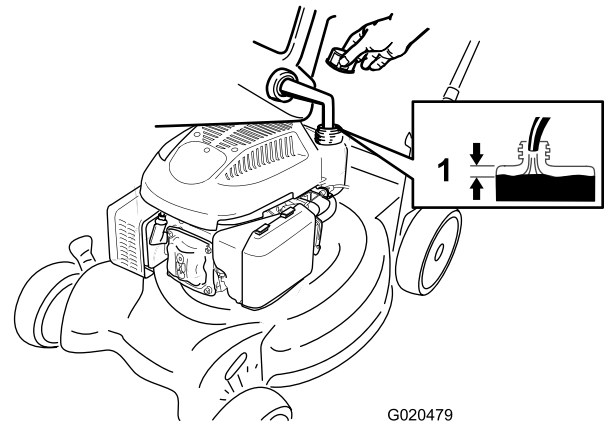

Figure 10
1. Clean around the fuel tank cap, and remove the cap from the tank (Figure 10).